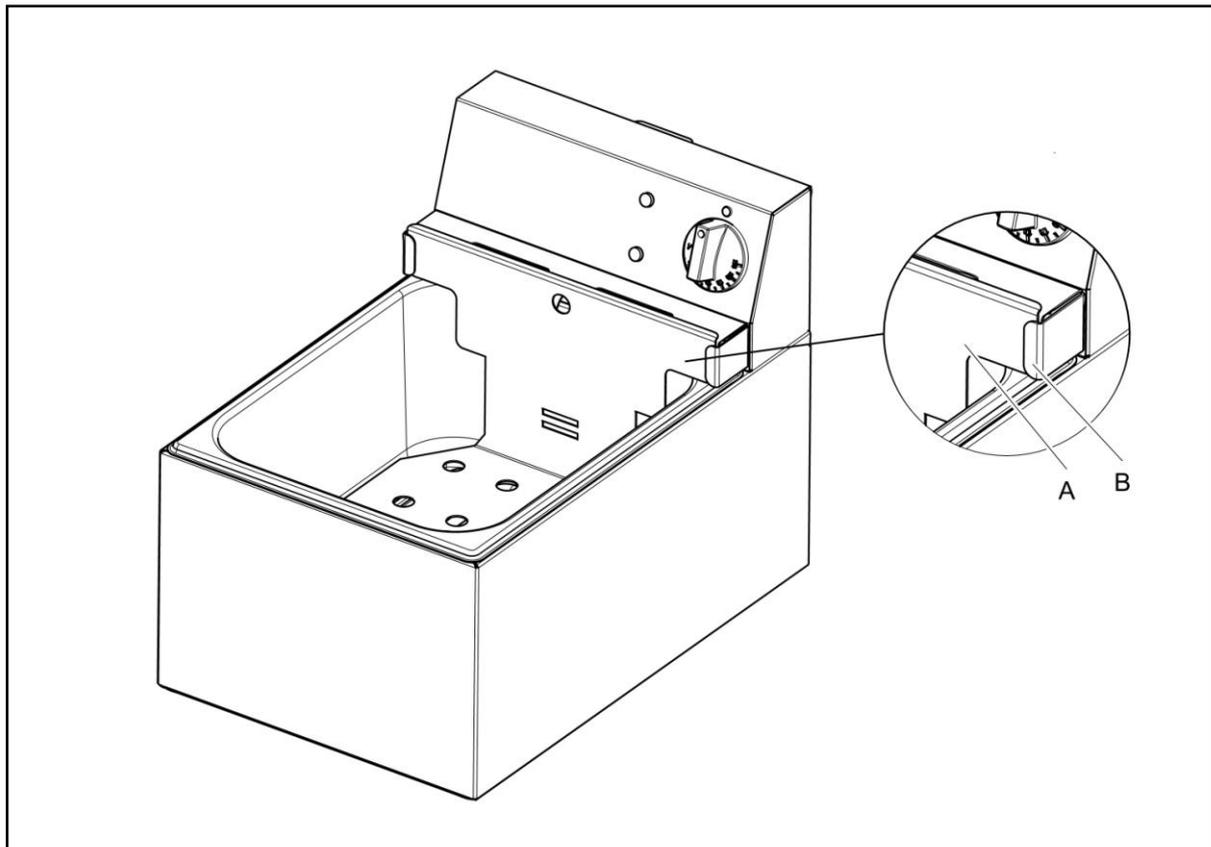

Fig 3
Replace the control head and batter plate, ensuring the batter plate Fig 3 (A) slots behind the basket support (B).